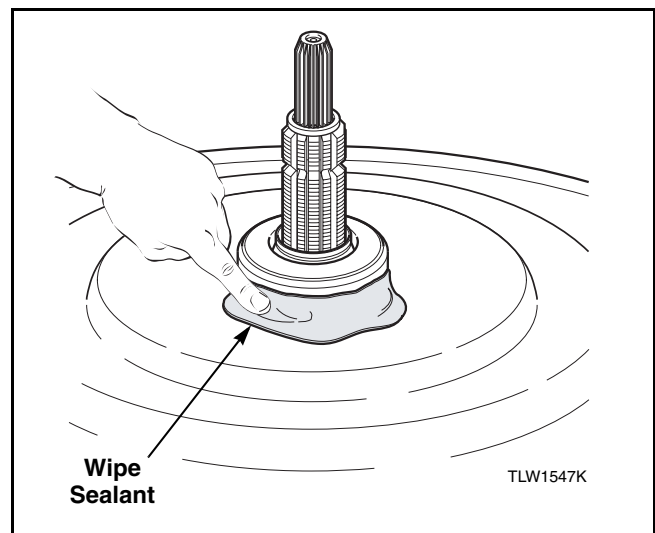

Figure 64
v. Using your finger, wipe sealant around seal to continuously cover 1/2 the side of seal. Refer to *Figure 64*.